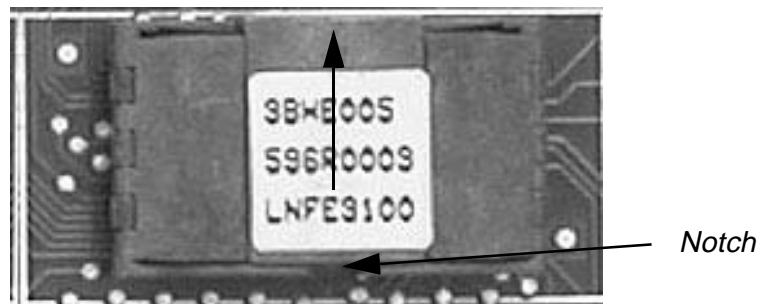

Figure 12-10 Pulse Pattern Flash Cover
- 1 Unlock the cover of the flash socket by pushing the middle section away from the notch (see arrows in *Figure 12-10 b*).